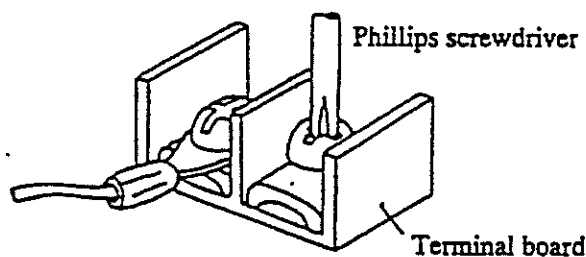

Figure 5.6 Terminal board connections
- (1) Remove the housing cover for the terminal board shown in Figure 3.1. The terminal board is located inside the converter as shown in Figure 3.2. Connect the crimped terminal of each wire to the specified pin of the terminal board. See Figure 5.1 for the terminal board configuration. Tighten each crimped terminal to the terminal board with a screw using a Phillips screwdriver as shown in Figure 5.6. Loose connection may result in unsatisfactory flowmeter performance. Make sure the wire is securely connected.